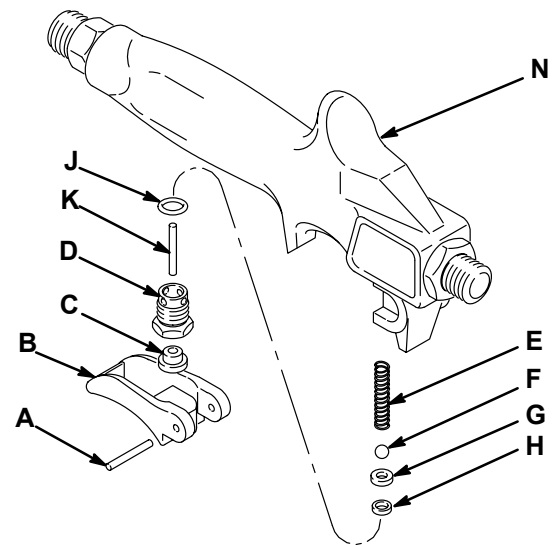

Fig 6 0290
1. Tap out the pin (A) from the trigger (B) and slide the trigger off of the valve (N). See Fig 6.
2. Remove the cap (C). Use a 1/2 in. socket wrench to screw the fluid housing (D) out of the valve. Remove the o-ring (J). See Fig 6.
3. Pull the needle (K) out with needle nose pliers. See Fig 6.
4. Tap the seat (G) out of the valve (N). See Fig 6.
5. Remove the ball (F) and spring (E) from the valve handle. See Fig 6.
16. Slide the trigger (B) into place. Install the pin (A) in the trigger. See Fig 6.